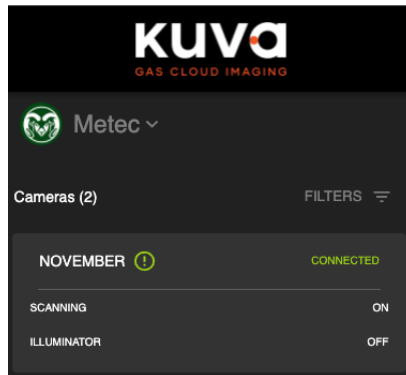

Figure 67 Kuva Web app
6. Confirm on the web app (app.kuva.cloud), that the device is connected to the cloud as per Figure 67.